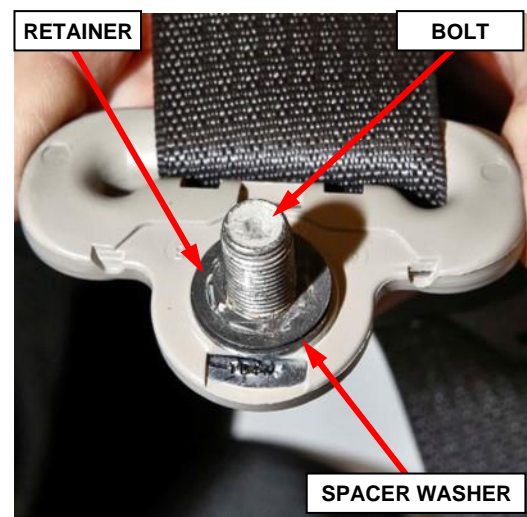

Figure 40 – Turning Loop Bolt
- 62. Remove and **DISCARD** the bolt retainer and the bolt from the seat belt turning loop, save the spacer washer for reuse (Figure 40).